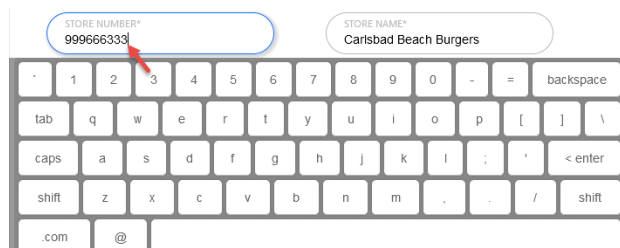

Fig. 1.10
**Direct Access Fields:** These are fields you can type directly into. When you click the cursor or tap in this field, a pop-up keyboard opens (see Fig. 1.10). This allows you to enter information using a mouse (without the need for a physical keyboard).